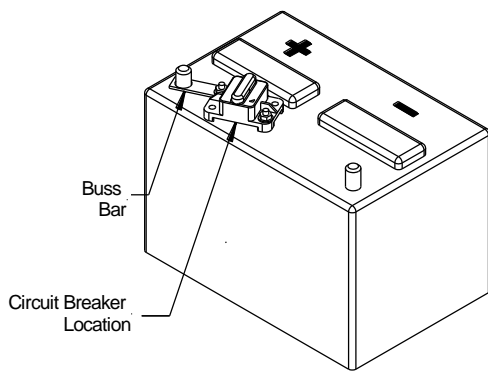

Fig. 21
1. Mount the circuit breaker securely in battery box or at positive battery terminal using the buss bar, **Fig. 21**.